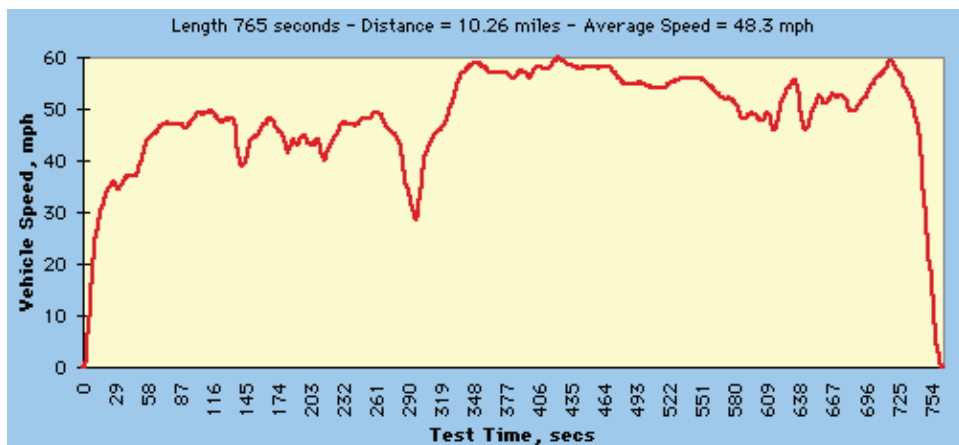

Figure 3. HWFE Test Cycle Speed Trace
- **HWFE**: The HWFE is used by EPA to determine highway fuel economy for light duty vehicles. It consists of a single phase of non-stop highway driving. Figure 3 shows the speed trace of a single HWFE test cycle which is available in 40 CFR Part 600 Appendix I.